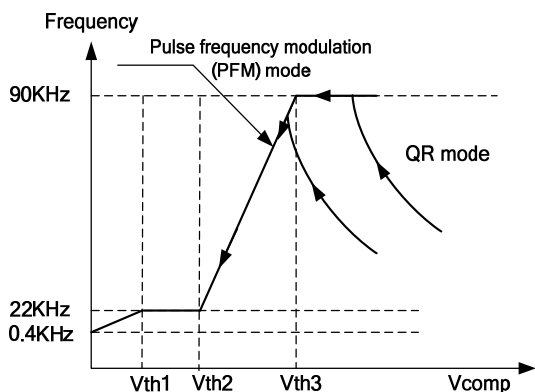

Figure 2 Multi-mode operation diagram
OB2570xP is an excellent integrated multi-mode (see Figure 2) PWM controller optimized for off-line middle power AC/DC applications. It operates in quasi-resonant mode (QR) to provide high efficiency with primary side sensing and regulation thus provides cost effective solution for energy efficient power supplies.